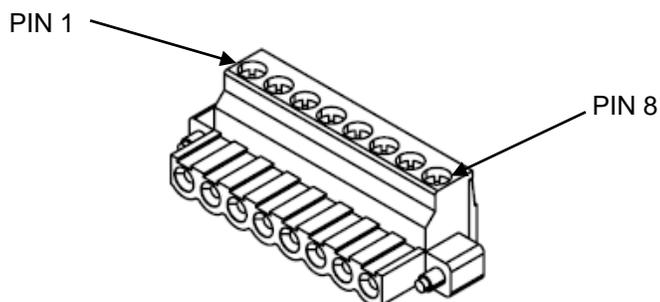

FIGURE 3: ES-796859-8 PIN NUMBERS
Step 9: Insert the bare wires into the receptacle and tighten down the respective clamping screw. Reference Table 1 and Figure 3 to match the aircraft harness wire number to the ES-796859-8 pin number. Firmly pull on each wire to ensure the crimps are firm and secure.